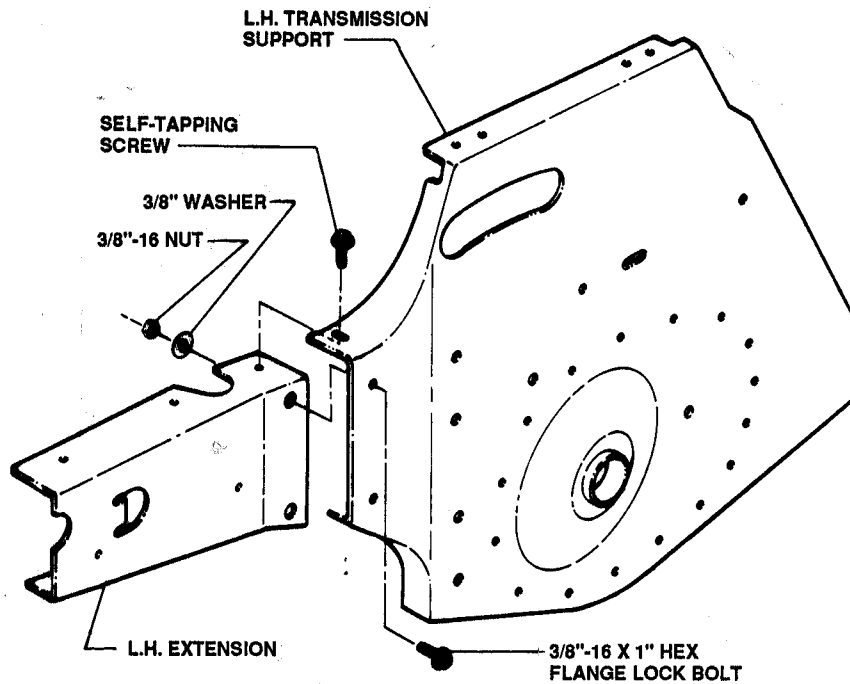

FIGURE 4.20
8. Remove hardware securing L.H. Transmission Support to L.H. Extension. See Figure 4.20.